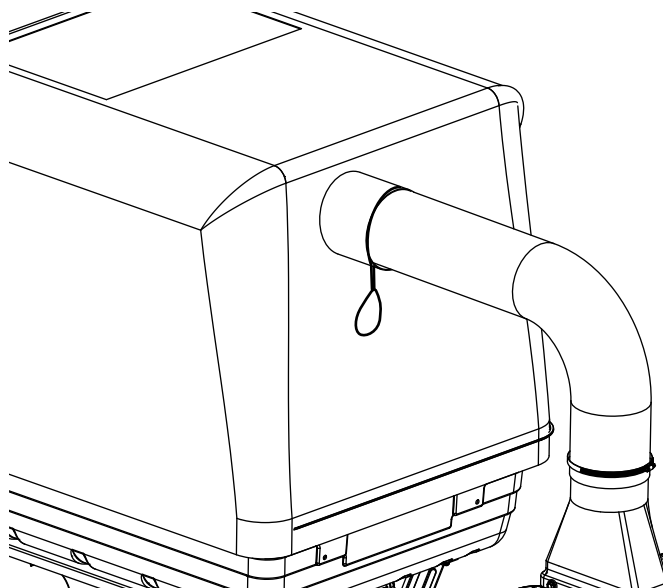

FIGURE 14
- Insert the hose through the hole in the cover and secure with the drawstring lock. See figure 14.